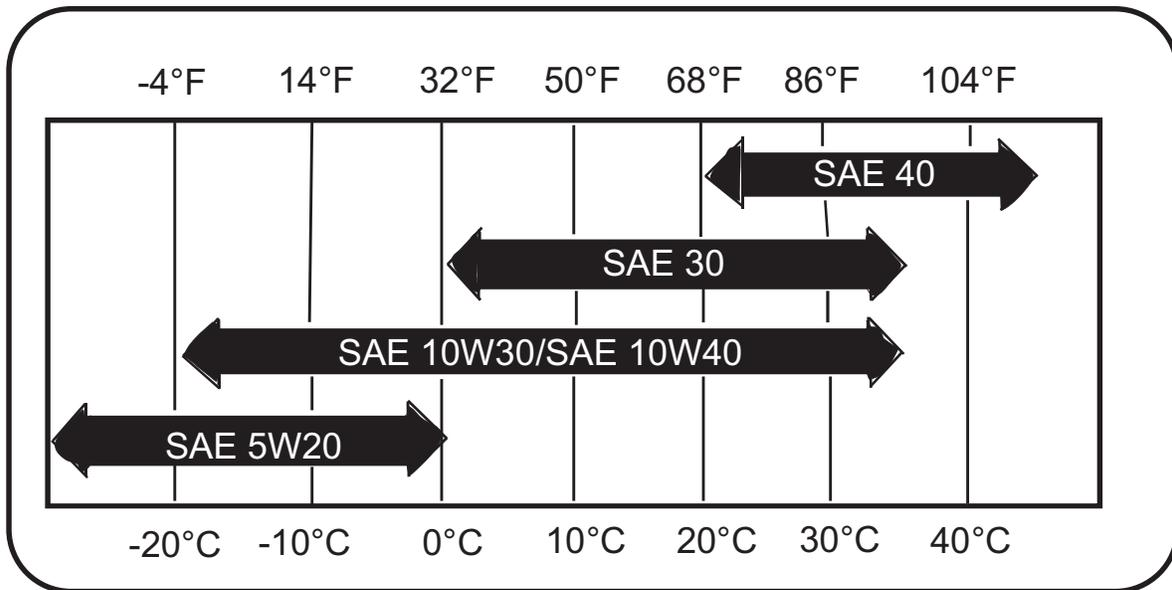

**Figure 4.44**
**NOTE:** A second thrust washer goes between the governor gear and the cylinder block. Make sure it is in place when installing the governor gear. See Figure 4.44.